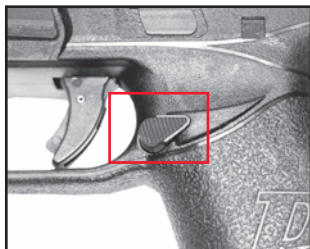

Figure 6
The Magazine Release Button is used to release the magazine from the firearm. The Magazine Release Button is located on the left side of the pistol behind the trigger. To release a magazine from the pistol, depress the Magazine Release Button. See Figure 6.
2. Remove the magazine by pressing the Magazine Release Button. See Figure 6.